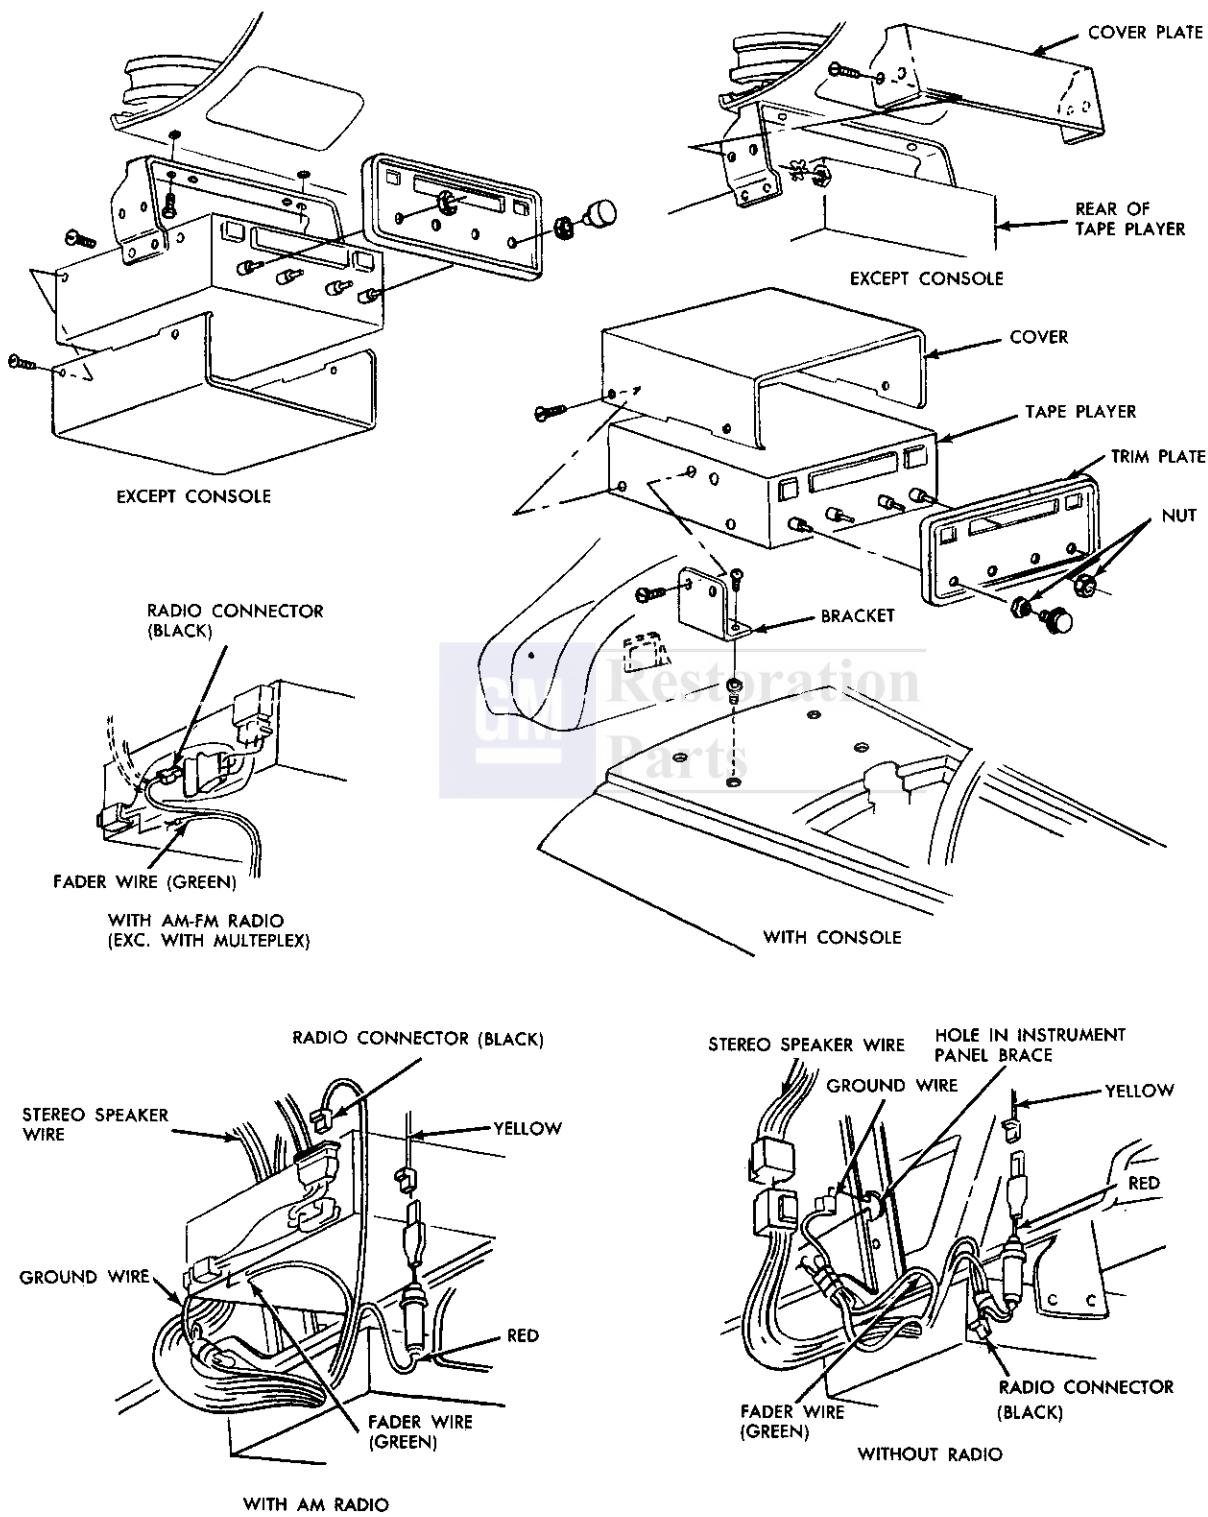

Fig. 15-53 Stereo Tape Player—Firebird
REMOVE AND REPLACE—FIREBIRD (Fig. 15-53)
6. Remove knobs and nuts from trim plate (Fig. 15-53) and remove trim plate.